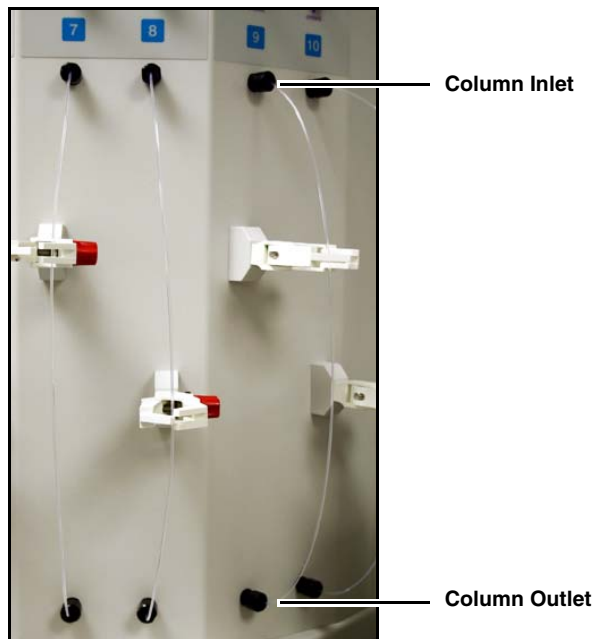

Figure 2-18 Column bypass tubing
6. Ensure that each channel on the BioOptix 10 has 0.125" OD bypass tubing between the Column Inlet and Outlet ports (Figure 2-18).